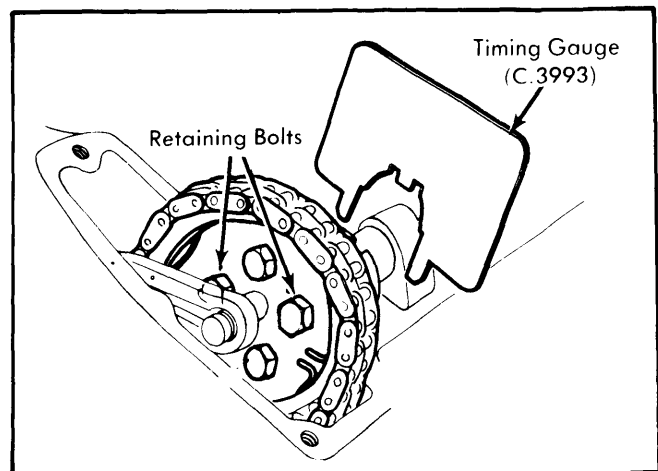
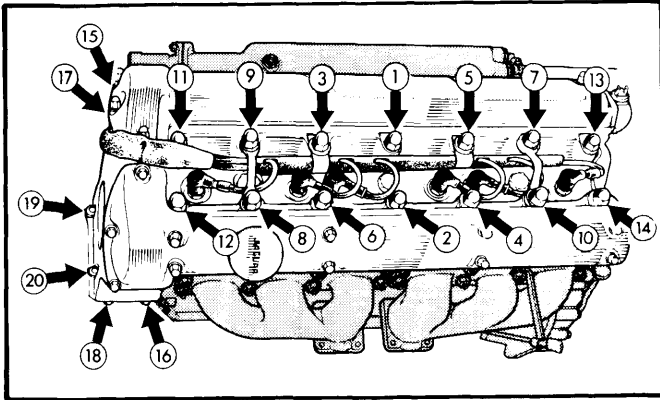

Fig. 1 Retaining Bolts Installed to Hold Camshaft During Cylinder Head Installation
Fig. 2 Jaguar XJ6 Cylinder Head Tightening Sequence
2) Rotate camshafts until suitable timing gauge (C.3993) can be located in front flange slots (Fig. 1). Lower cylinder head into position, attach spark plug wire brackets and lifting brackets to appropriate head studs, then place washers and 14 large domed nuts on stud. Affix nuts and washers at forward end of head, then tighten all nuts (Fig. 2).